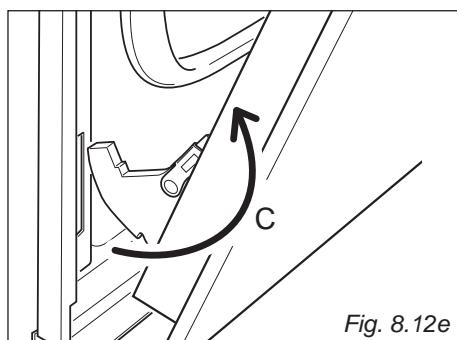

Fig. 8.12e
- Withdraw the hinge hooks from their location following arrow "C" (fig. 8.12e).